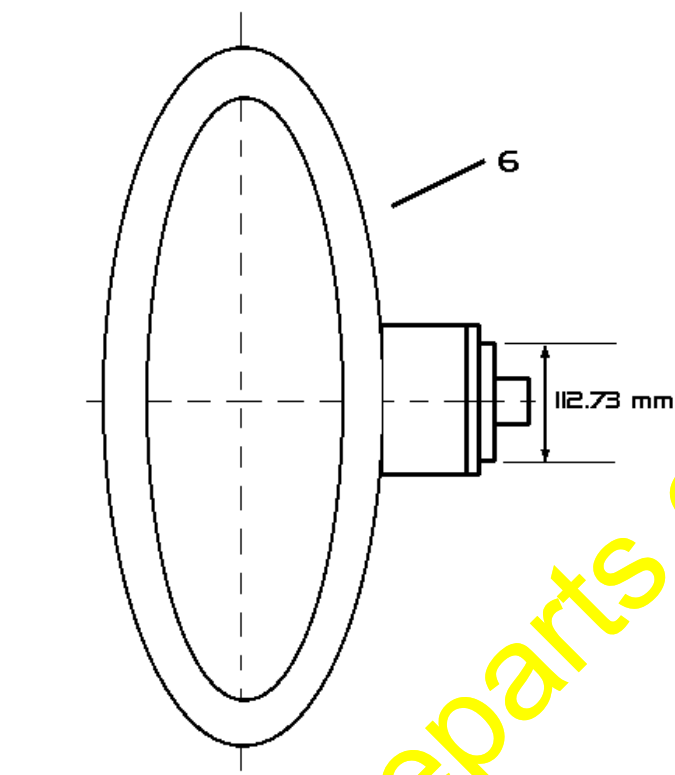

Figure 3
2. See Figure 3 regarding new muffler for the WA500-3LE.